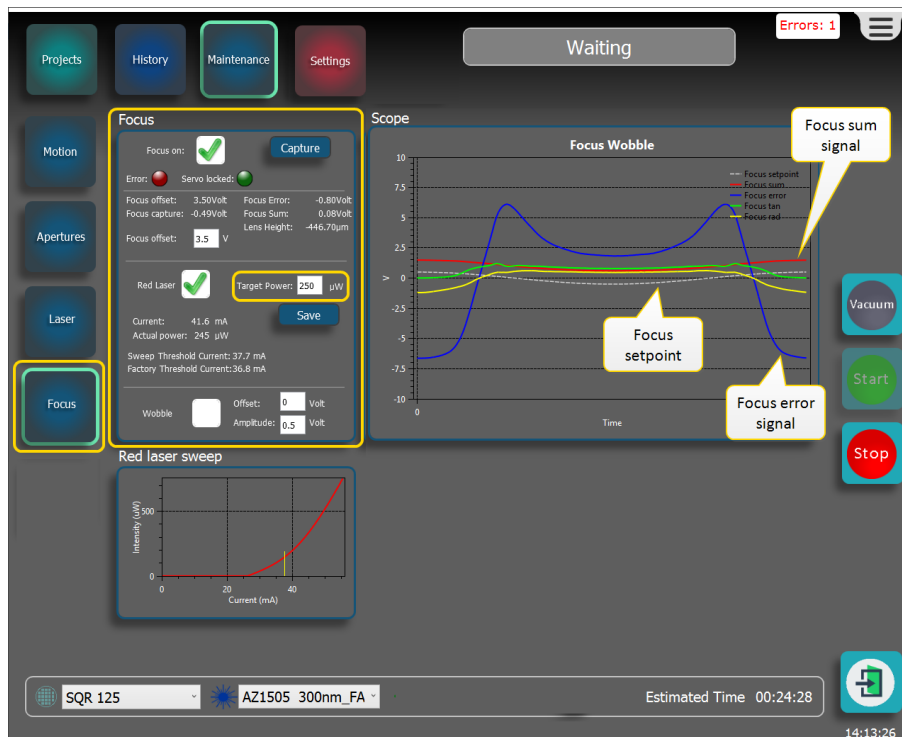

Figure 3-13 Preparing the z-adjustment
7. Select the **Focus** tab and go to the **Focus** section, see **Figure 3-13 below**
11. Carefully turn the adjustment hand screw (see **Figure 3-14 above**) while checking the lines in the **Scope** window, see **Figure 3-13 on the previous page**.